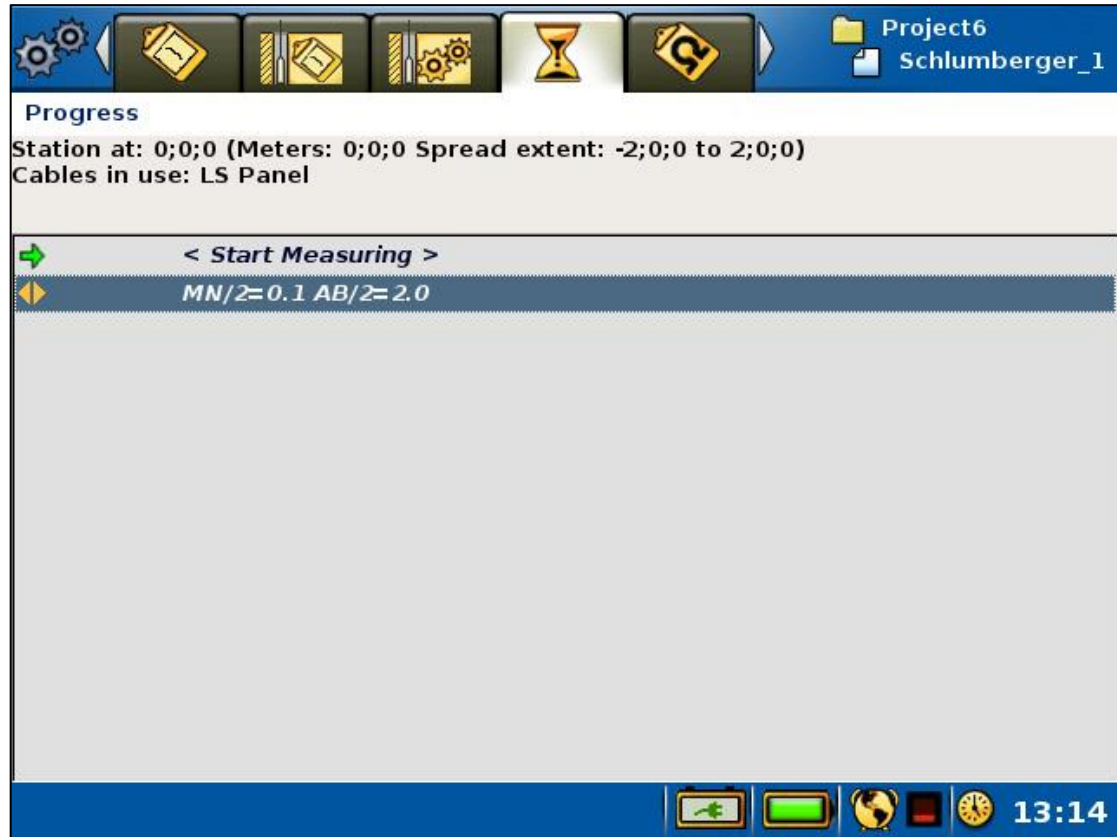
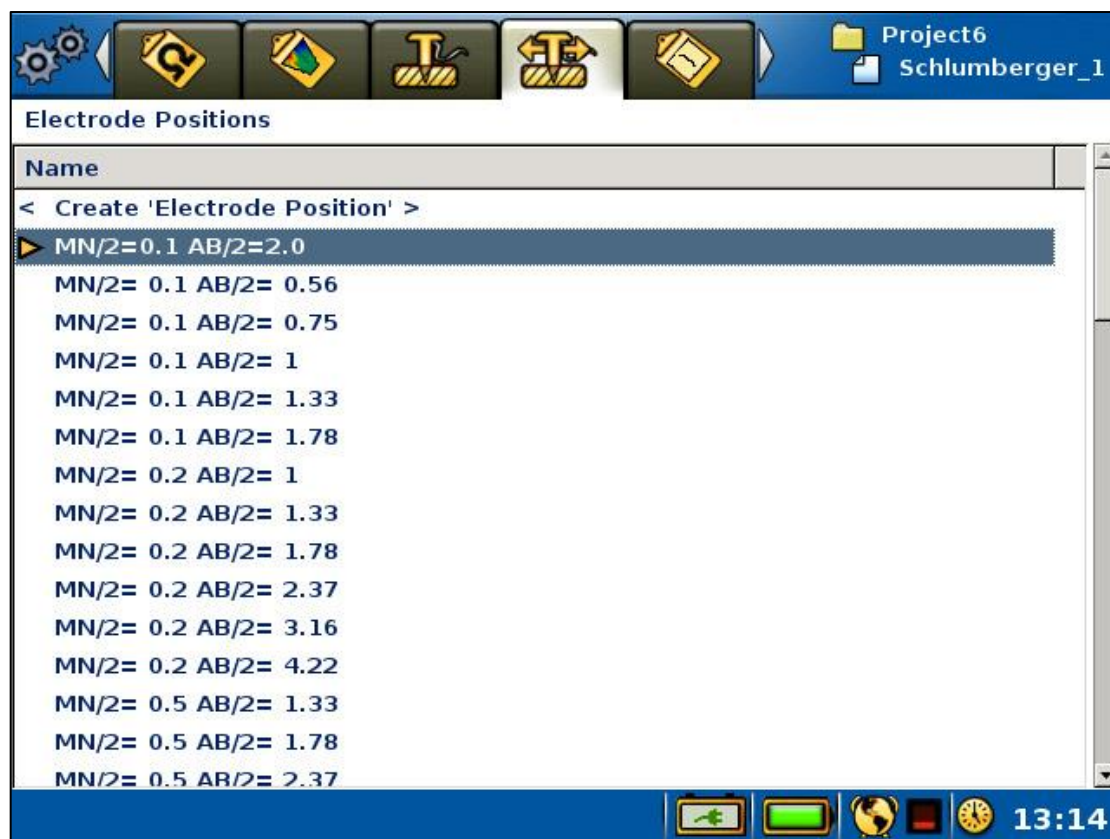

Figure 69 The Progress view in VES mode
Figure 70 The Electrode Positions view in VES mode. Highlight on the second row and active electrode position marker on the fourth row
- The “*Measure/Progress*” View (Figure 69) will be used to start and stop measurements as usual. The active electrode position, that is the electrode position to be measured, can also be set from this View.
- The “*Measure/Electrode Positions*” View (Figure 70) displays a list of all the electrode positions of the active Task. The active electrode position can be set and a new temporary electrode position can be created from this View.
In VES mode a line with a “MN/2 and AB/2” electrode position will be shown on the *Progress View* (Figure 69). This is the active electrode position.
The *Electrode Positions View* (Figure 70) lists all the electrode positions from the protocol file. The dark yellow arrow is placed on the line that corresponds to the active electrode position. This electrode position is the one that is shown on the second row of the *Progress View* (Figure 69). The *Electrode Positions View* will be empty when the instrument is not in VES mode.
- Navigate to the “*Measure/Electrode Positions*” View (Figure 70)